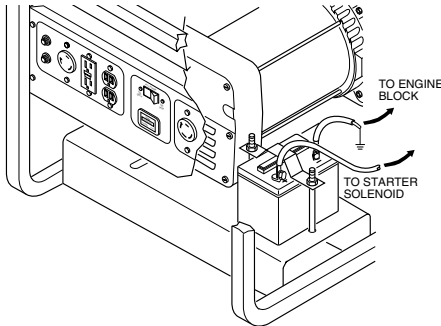

Figure 12 - Connecting Positive and Negative Cables to Battery (Model MGH7000C Shown)
2. Locate the red, positive (+) battery cable from starter solenoid. Connect it to the positive (+) battery terminal (see Figures 12 and 13, page 9).
3. Locate the black, negative (–) battery cable attached to engine block. Connect it to the negative (–) battery terminal (see Figures 12 and 13, page 9).
Grounding generator helps prevent electric shock from a ground fault condition. Locate ground lug on end of generator housing (see Figure 12). Attach a #10 stranded-copper ground wire to ground lug. Drive grounding point into ground. Grounding point can be a stake, grounding rod, or pipe. Grounding point should be copper or brass. Attach